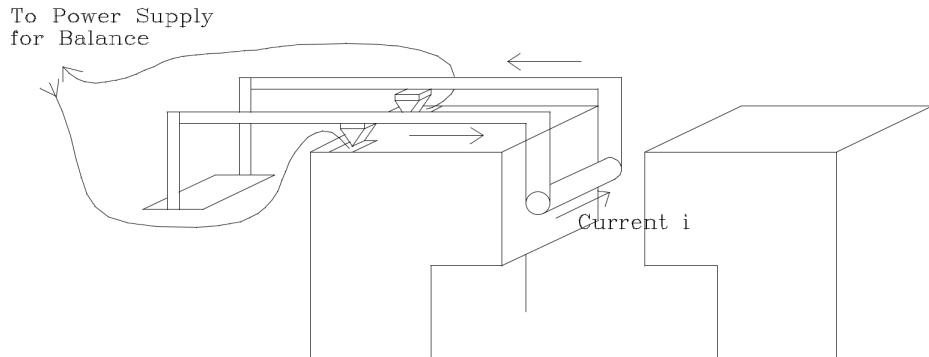

Figure 3: Setup of the Wire and Balance for Force Measurement
A more detailed drawing of the balance and electro-magnet arrangement is shown in Figure 3.
6. Draw a diagram similar to Figure 3, and indicate the direction of  $i$ ,  $F$ , and  $B$  for your set-up.
shown in Figure 3.